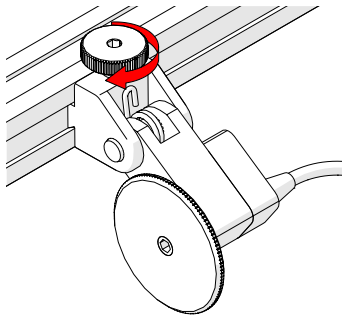

Fig. 37 - Tighten knob
2. Tighten the encoder knob (*Fig. 37*).